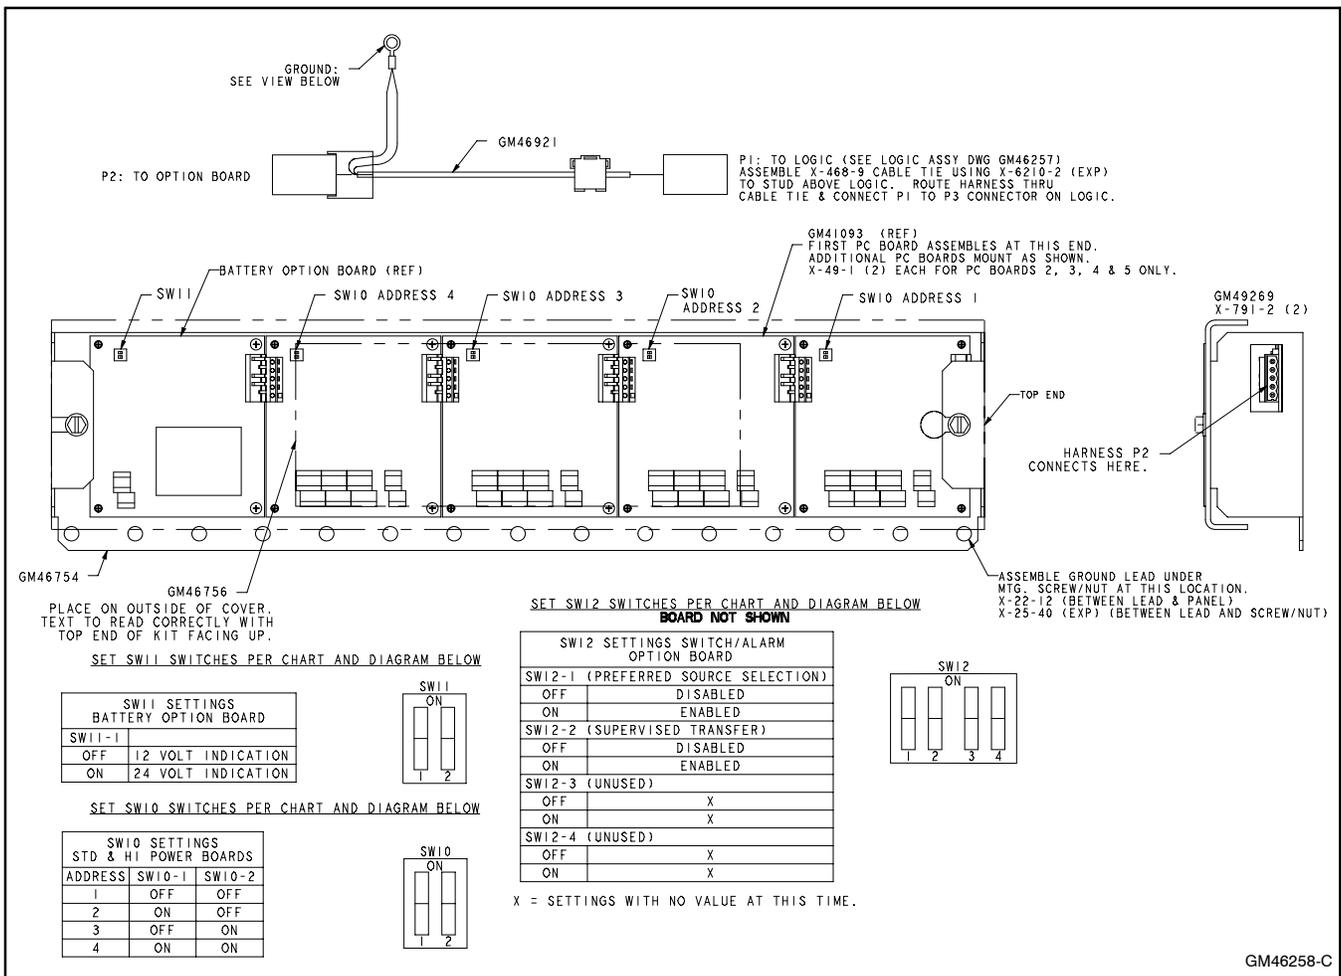

Figure 5 Accessory Module Mounting
1. Connect the ground lead from the module harness (GM46921) to the mounting screw near the top of the bracket as shown in Figure 5.
2. Install the mounting bracket on the three studs provided inside the enclosure, connecting the module harness (GM46921) ground lead to the top mounting screw as shown in Figure 5.
1. Place the first module over the top four standoffs on the mounting bracket (nearest the opening for the connecting cable). See Figure 5. Align the four corner holes over the standoffs and press firmly until all four standoffs snap into the holes.